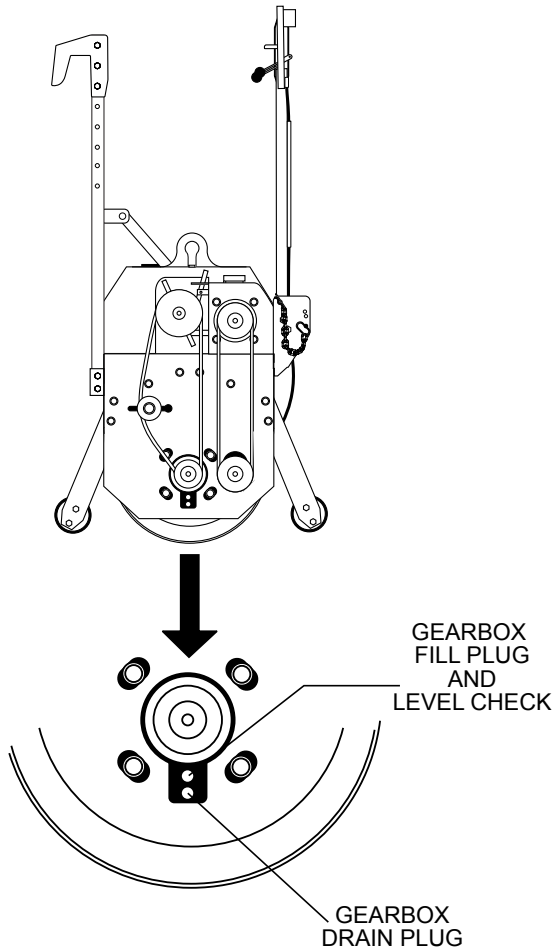

Figure 15. Gearbox Fill and Drain Plugs
1. Remove the oil fill drain plug on the gearbox (Figure 15). If the oil level is **correct**, oil will begin to leak out. Retighten drain plug.